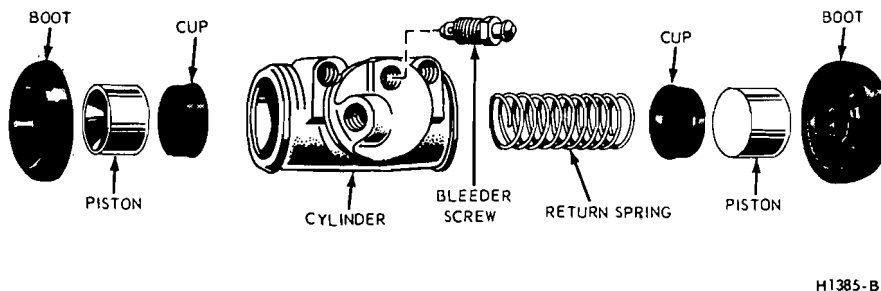

FIG. 5—Brake Wheel Cylinder—Typical
1. Remove the links and the rubber boots from the ends of the brake cylinder. Remove the pistons, cups, and return spring from the cylinder bore (Fig. 5).